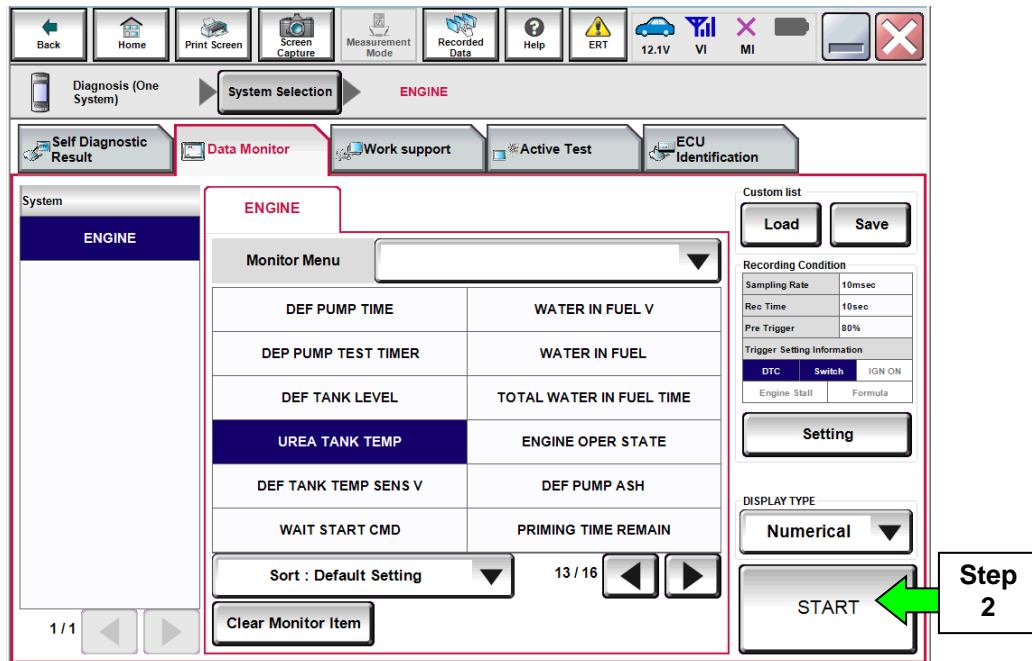

Figure 1B
1. Navigate C-III plus to **Engine > Data Monitor > UREA TANK TEMP** (see Figure 1B).